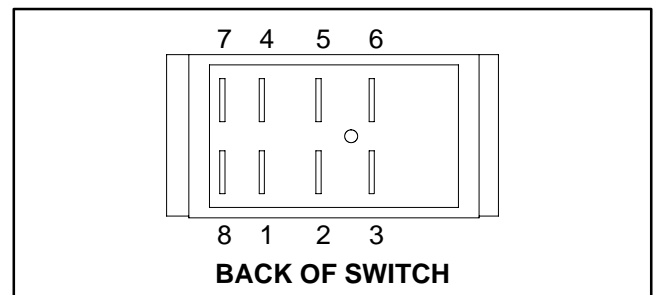

Figure 35
3. The switch terminals are marked as shown in Figure 35. In the ON position, continuity should exist between terminals 2 and 3 and also between terminals 5 and 6. In the OFF position, continuity should exist between terminals 1 and 2 and also between terminals 4 and 5.